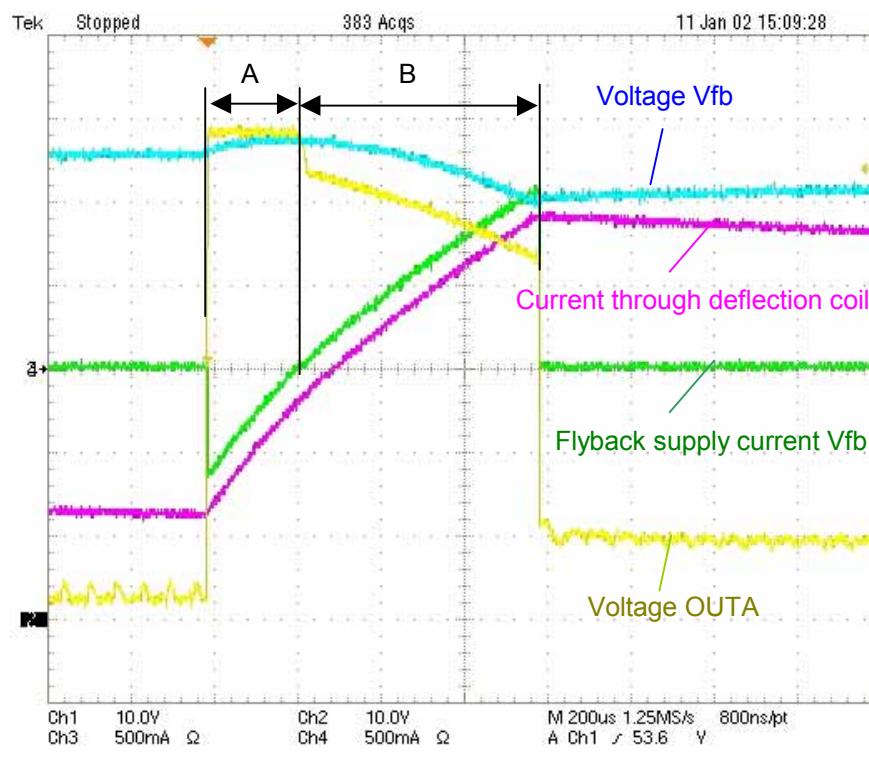
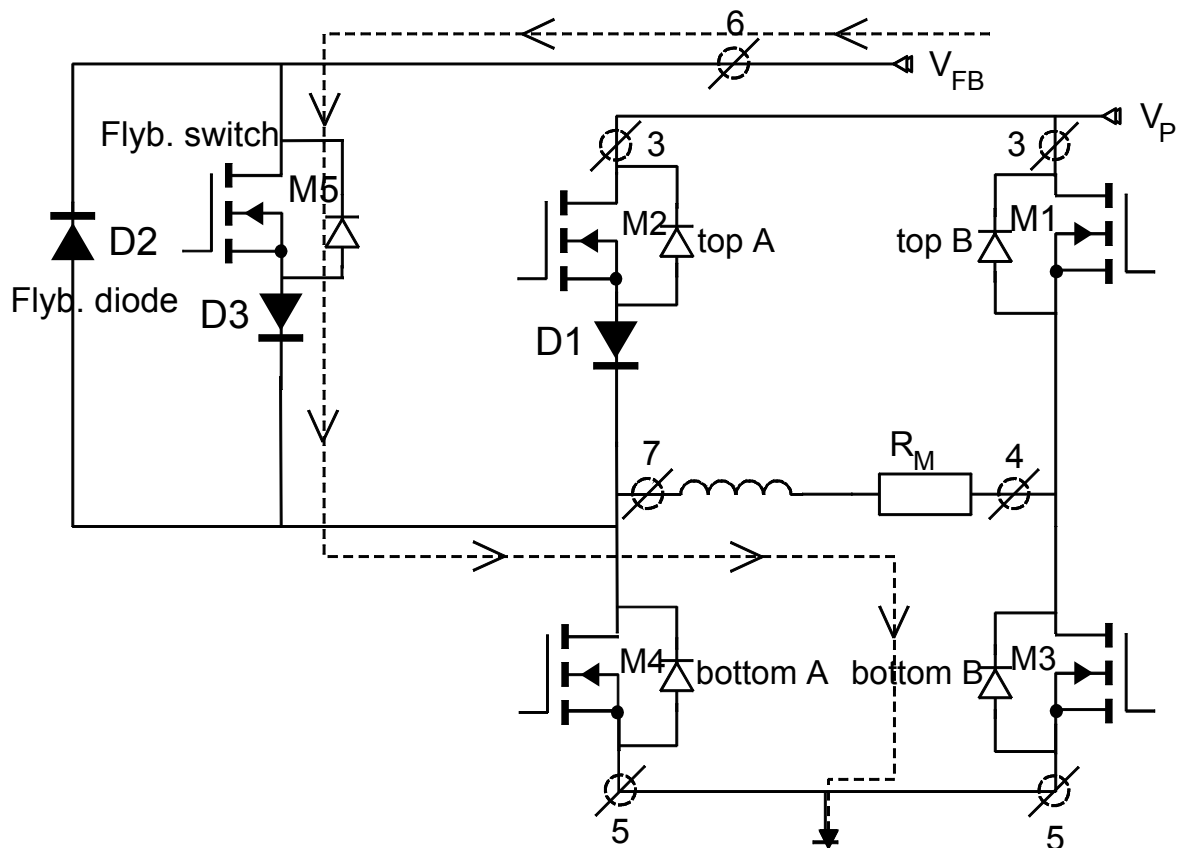

fig 16: Waveforms during flyback.
fig 18: Current path, second part of flyback.
The flyback can be divided in part A and B, see fig 16. Due to the high voltage across the coil and the influence of the damping resistor, the first part A has a short duration. Part A ends when the current in the deflection coil becomes zero.
The voltage at the output (pin 7) increases and the flyback diode D2 conducts. This output voltage becomes about 2 Volt higher than the flyback supply voltage (=voltage across diode D2), see fig 16. The current is fed into the flyback supply capacitor.
The second part, part B of the flyback pulse, starts when the current in the deflection coil crosses the zero level, see fig 16. Now, the current in the deflection coil is supplied by the flyback voltage supply and the flyback switch (M5) conducts. The current flows via the flyback switch (M5), the internal diode (D3), the deflection coil, the measuring resistor R_M , via the bottom MOSFET of stage B (M3) to ground, see fig 18. (Due to a voltage loss across the flyback switch (M5) + the internal diode (D3), the output voltage at pin 7 is about 8 V lower than the flyback supply voltage. This voltage drop depends on the current in the coil; a higher current means a higher loss and thus a higher voltage drop.
- The internal voltage loss of the current path between pins V_{FB} and OUTA. So the voltage loss across the flyback switch M5 and diode D3; $V_{loss(FB)}$. See fig 18.